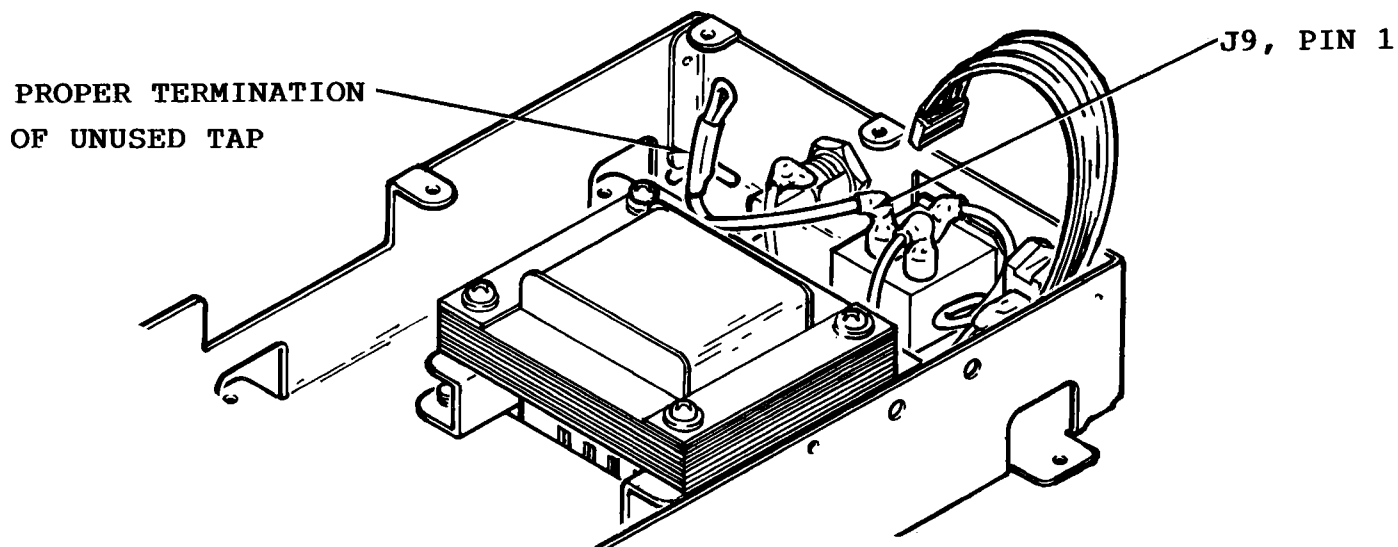

Figure 3-1. Electrical insulation of unused tap and pin 1 of J9.
6. Desolder wire from pin 1 of J9. (Refer to Figure 3-1)
- TO PREVENT A POSSIBLE SAFETY HAZARD, INSULATE PIN 1 OF T1 WITH HEAT SHRINK TUBING OR EQUIVALENT. USING HEAT SHRINK OR ELECTRICAL TAPE, INSULATE UNUSED TAP OF T1 AS SHOWN IN FIGURE 3-1.